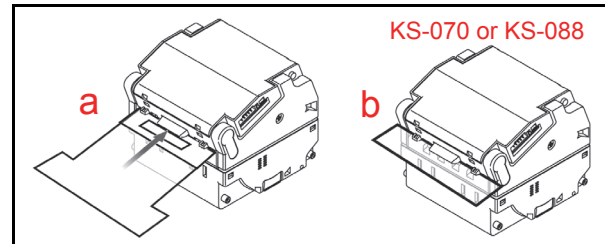

Figure 6-13 Reference Paper Insertion
5. Set DIP Switch No.1 to 'OFF' and confirm that the **Green** Front Panel LED is lit (ON).
6. Insert the KS-070 Reference Paper into the Taiko™ Unit (See Figure 6-13 a). If calibration of the Barcode Coupon Specification Unit is also required, insert the KS-088 Reference Paper. When the Rollers begin to rotate, continue inserting the Reference Paper all the way into the Unit (See Figure 6-13 b).